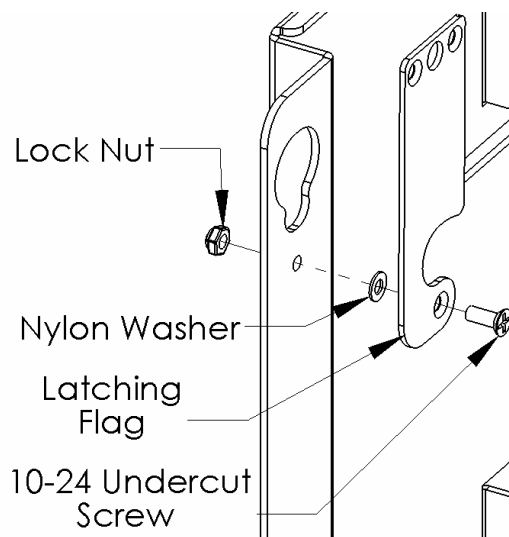

Figure 2
1. Attach latching flag to mount using the 10-24 Phillips head screw, Nylon washer, and Nylock nut using the inside set of (see Figure 2). Tighten until friction will hold the flag in place.